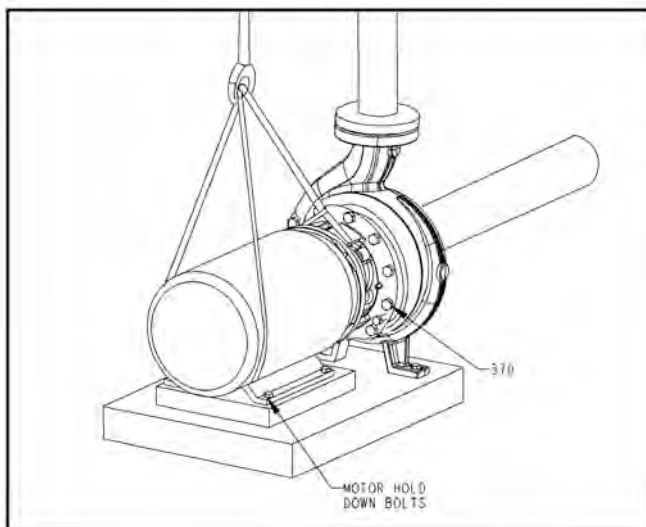

Figure 29:
4. Place sling from hoist through frame adapter (108) or frame and around bottom of motor (Fig. 29).
5. Remove motor foot hold down bolts (see Figure 29: on page 39).
6. Remove casing bolts (370) (see Figure 29: on page 39).